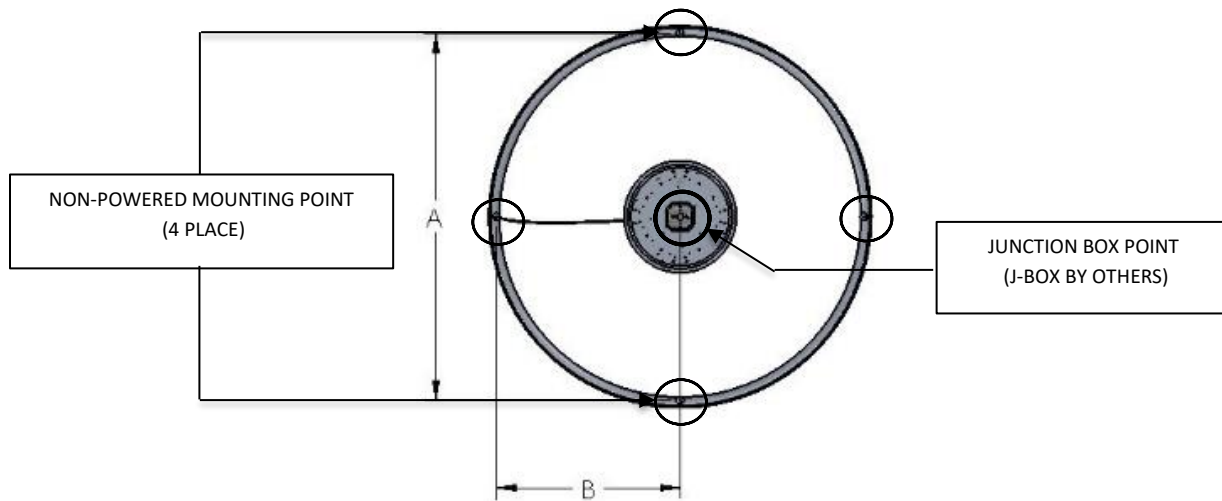

FIG. 6 - TOP VIEW SHOWING MOUNTING VIEW INFORMATION
1. Mark location for the NON-POWERED MOUNTING POINT according to the MOUNTING INFORMATION TABLE and FIG. 6 below.